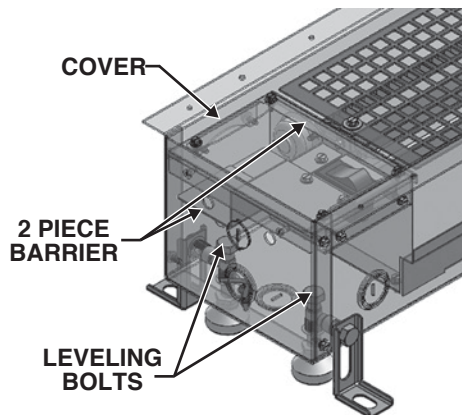

Figure 6A: Wiring Compartment Components
3. Remove construction cover, splash covers (see Fig. 6A & 6B) and protective barriers to access wiring compartments, as well as swivel leveling legs and adjust until unit is level and to proper height (if used).
4. Remove construction cover, splash covers (see Fig. 6A & 6B) and protective barriers to access wiring compartments.5. Place unit in intended location, adjust leveling legs.
4. Remove construction cover, splash covers (see Fig. 6A & 6B) and protective barriers to access wiring compartments, as well as swivel leveling legs and adjust until unit is level and to proper height